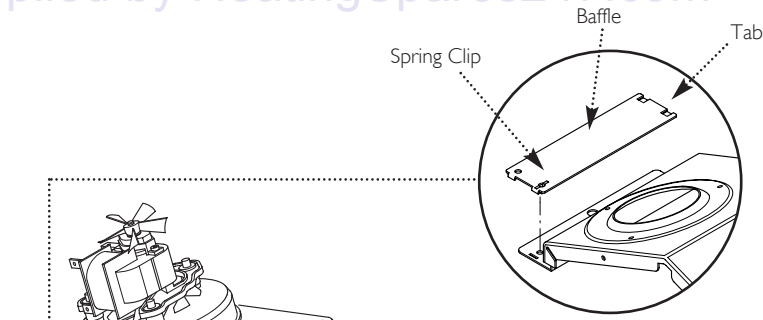

Fig. 56
10. Ease the front edge of the left hand baffle upwards, disengaging the spring clip. Disengage the tab on the baffle from the slot in the fan hood (Fig. 56).